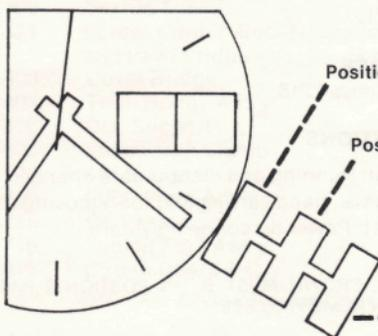

Figure 4. Crown Positions
- The setting mechanism should be in Position 1, (innermost) while assembling the P.C. Board (part #812) Fig. 4.